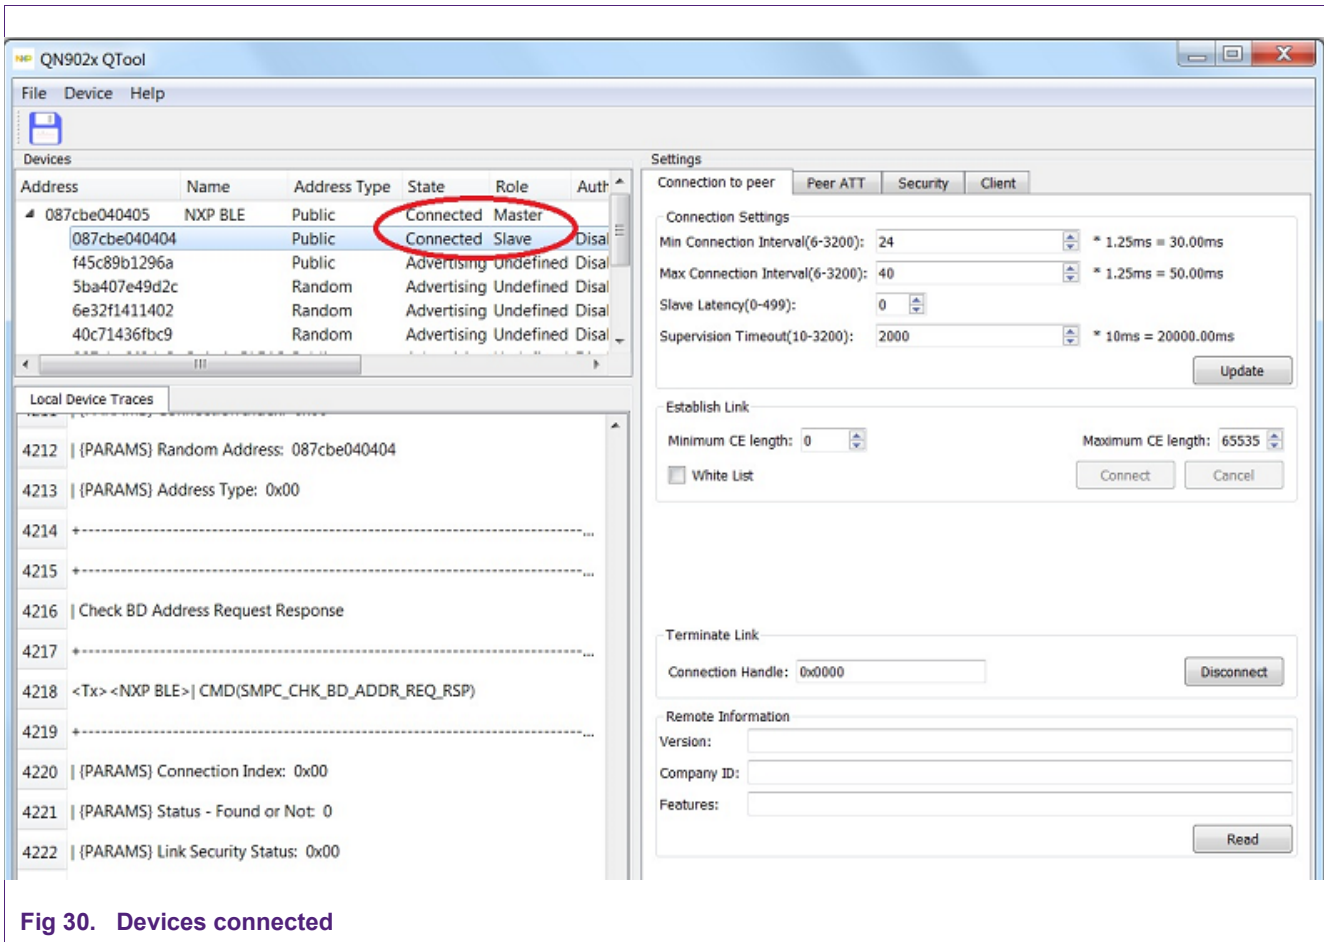

Fig 30. Devices connected
The role of BLE dongle changes to master and the mini DK board acts as slave. The state of both devices is connected as shown in Figure 30.
1. Click “disconnect” button in “Connection to peer” tab; see Figure 30. The device disconnects with no response.